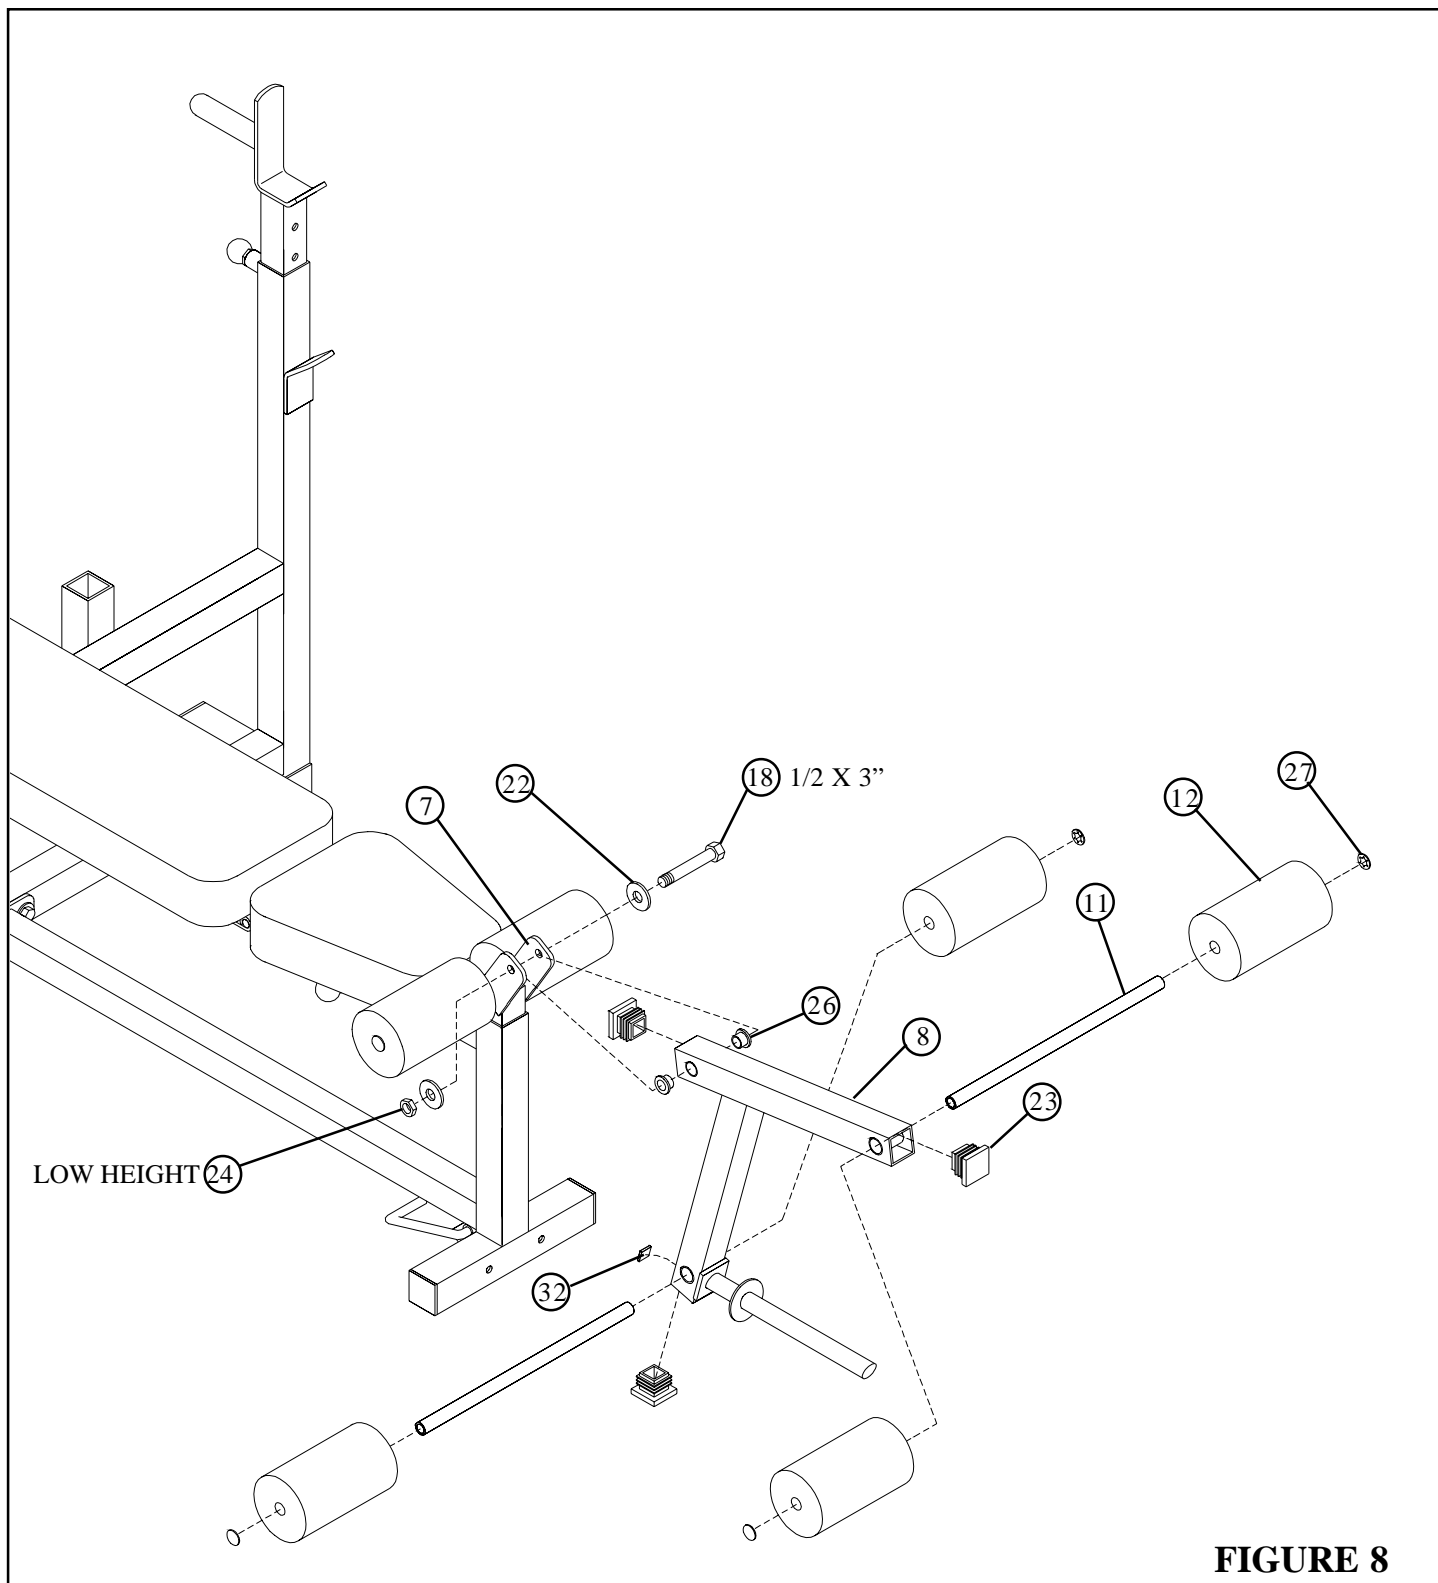

**FIGURE 7**
- Insert one 1-3/4" SQ. END CAP (23) into the top of the LEG EXTENSION NECK (7) as shown in FIGURE 7.
- Slide two ROLLER PADS (12) over each end of the SHAFT of the LEG EXTENSION NECK (7), as shown in FIGURE 7, and secure in place using two 3/4" STARLOCK COLLARS (27).
- Insert the LEG EXTENSION NECK (7) into the BENCH FRAME (2) and secure in place using on THUMBSCREW (29) as shown in FIGURE 7.